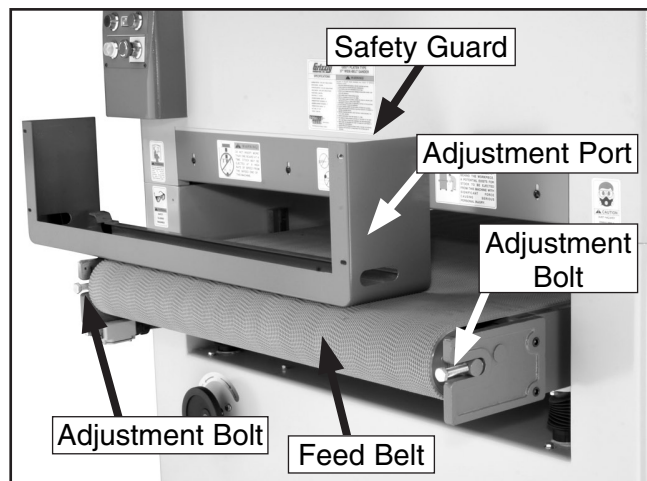

Figure 38. Feed belt tension adjustment bolts.
2. Find the adjustment ports in the safety guard (**Figure 38**) at the front end of the feed table.
3. Turn both left and right adjustment bolts (**Figure 38**) clockwise equally to increase tension.
2. If the feed belt is tracking to the **right** side of the table, turn the **right** adjustment bolt (**Figure 38**) clockwise.